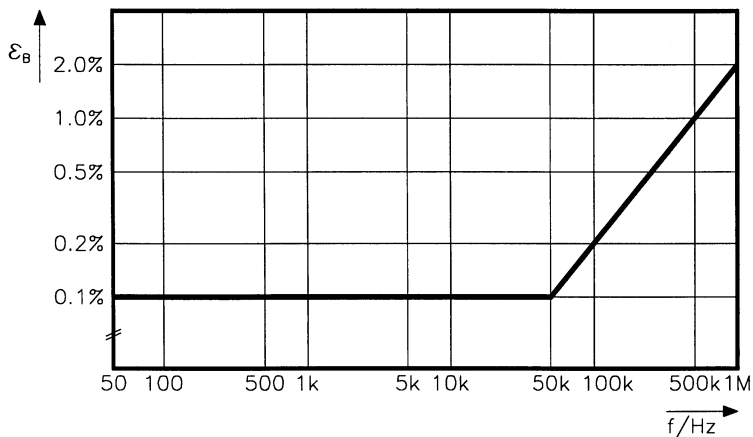

Figure 6A.2 Basic Accuracy ϵ_B versus Test Frequency f
- Test signal voltage ≥ 0.25 V, according to Figure 6A.3.
- Impedance between Z_{\min} and Z_{LIMIT} , according to Figure 6A.4.